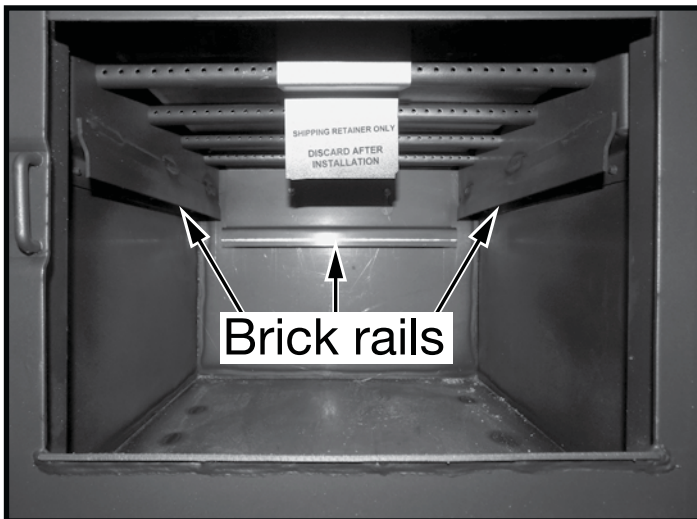

Figure 19: Firebox and brick rails.
1. Place the first brick up under the rear brick rail and slide it to either the far left or far right (Figure 19).